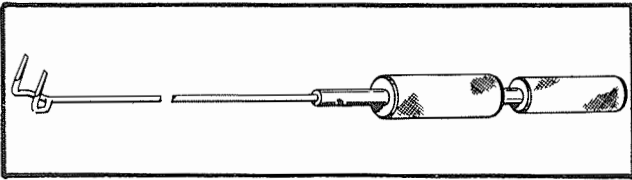

Figure 7-64. Cylinder Hold-Down Cap Screw Lock Plate Puller
a. Remove the cap screws retaining the fuel injection hose clips, using a 3/8 inch wrench, and remove the clips. Break the lockwire on the cylinder hold-down cap screws using puller 806791. Use puller 808171 (figure 7-64) to remove the cylinder hold-down cap screw lock plates, if used.